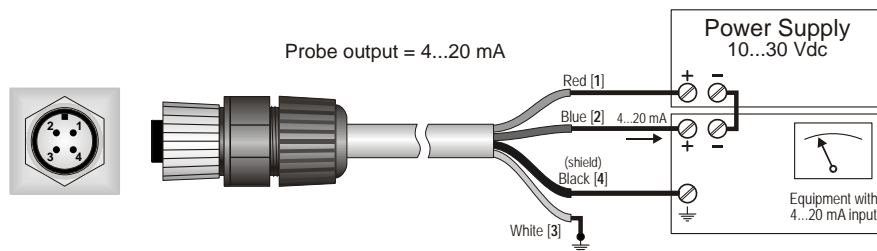

Fig. 7
- LP PYRHE 16 AC should be connected to a power supply device and to a multimeter according to the scheme below (figure 7); the load resistance for signal readout should be $\leq 500 \Omega$: